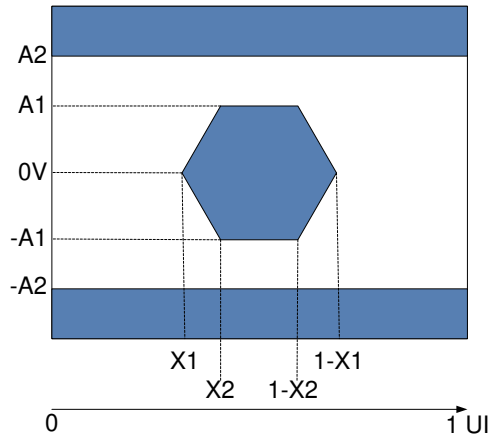

Figure 5-11. HSSI Eye Characteristics
(1) All power supply connections are required to operate the DMD: V_{DD}, V_{DDA}, V_{OFFSET}, V_{BIAS}, and V_{RESET}. All V_{SS} connections are required to operate the DMD.
(2) All voltage values are with respect to the ground pins (V_{SS}).
(3) To prevent excess current, the supply voltage delta | V_{DDA} – V_{DD} | must be less than the specified limit.
(4) To prevent excess current, the supply voltage delta | V_{BIAS} – V_{OFFSET} | must be less than specified limit.
(5) Supply power dissipation based on three global resets in 200μs.
(6) LVC MOS input specifications are for pin DMD_DEN_ARSTZ.
(7) LVC MOS output specification is for pins LS_RDATA_A and LS_RDATA_B.
(8) Refer to Figure 5-11, Receiver Eye Mask (1e-12 BER).
(9) Defined in the *Recommended Operating Conditions*
(5) See Figure 5-11 for rise time and fall time for HSSI Eye Characteristics.